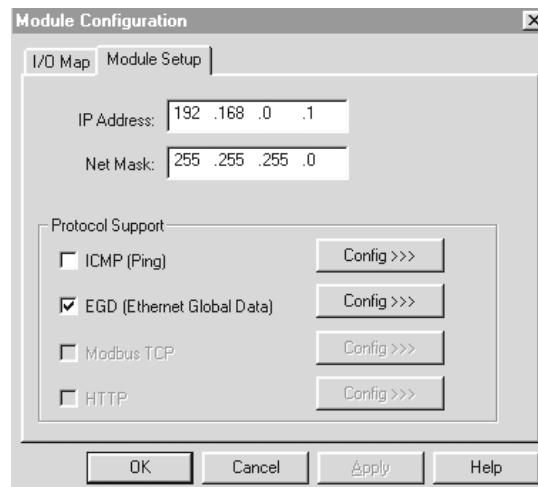

Figure 3.9 – Node 1 IP Address
Step 2. Follow steps 1-6 in Section 3.3: Configuration Procedures. In step 6, the following screen appears. **In order to create a node, a unique address must be entered into this screen.** Node 1 is given an IP Address depicted in Figure 3.9. Note that the **EGD** (Ethernet Global Data) box is selected. Press the **Config** button located to the right of the EGD box.
Step 5. Now that the Produced Exchange parameters have been configured, it is now necessary to configure the Consumed Exchange parameters. (Again, as a reminder, refer to Figure 3.9 to recall the desired configuration parameters for this example.) Click the **Consumed Exchanges** tab located on the screen in Figure 3.14.